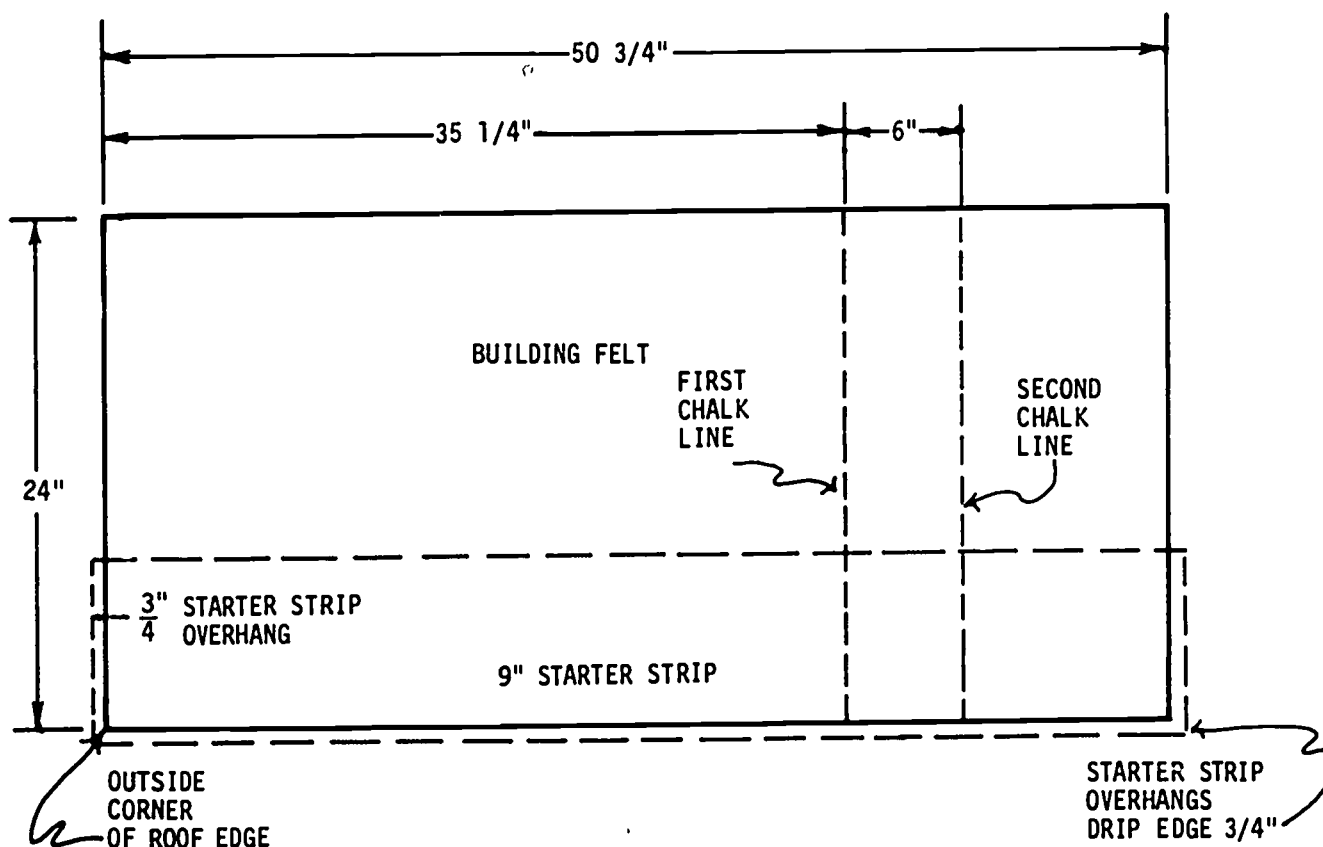

Fig. 57B-1. Roof Section Laid Out for Shingles
2. Measure and mark the top and bottom edge of the roof 35 1/4" from the left (closed) end of the structure. See Fig. 57B-1.
3. Measure 6" to the right of your first marks at both the top and bottom of the roof, and mark these points. See Fig. 57B-1.